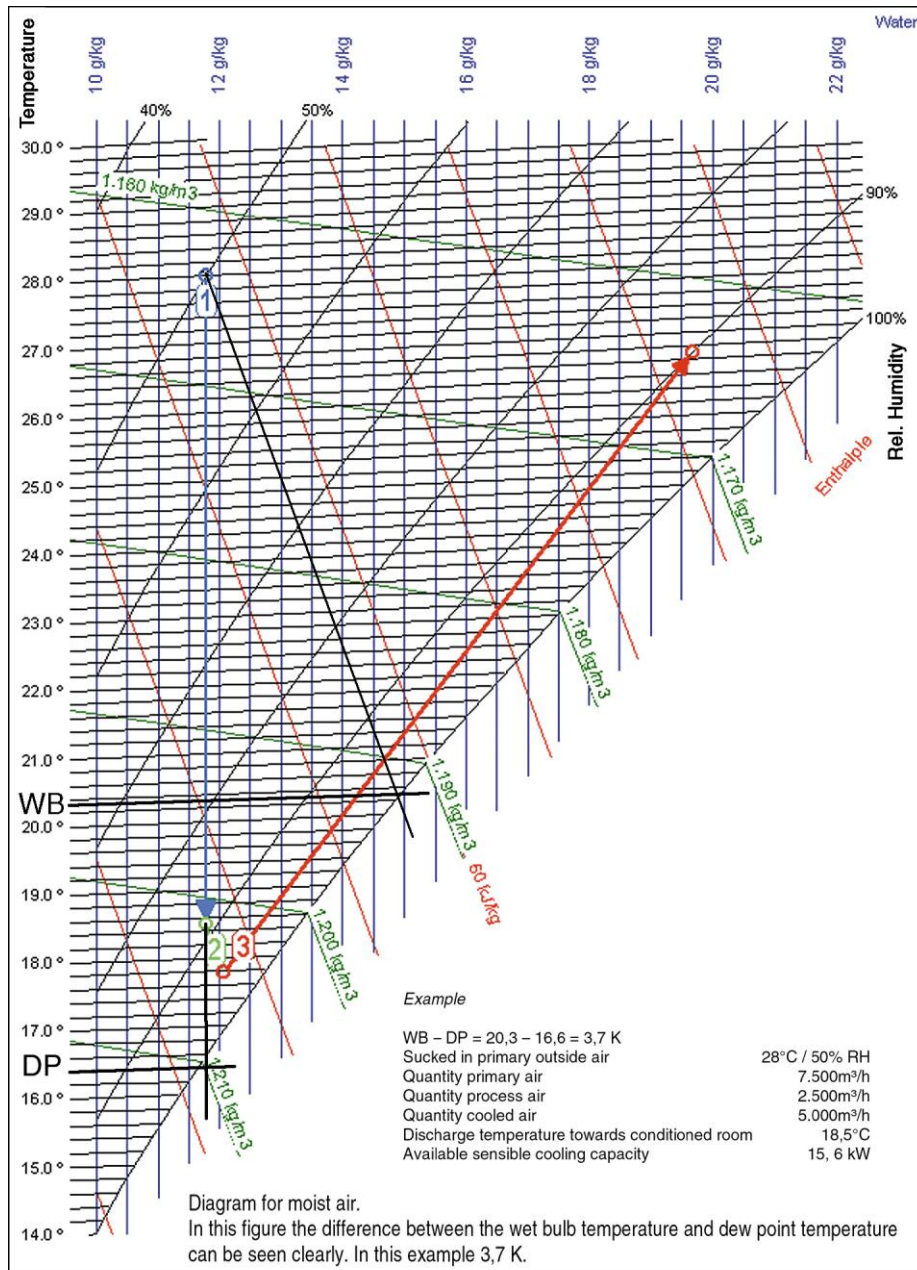

Figure 2. Mollier diagram for moist air
Direct Adiabatic Cooling is an adiabatic process resulting in a Wet Bulb temperature to be found on the saturation line in the Mollier diagram for moist air (fig. 2.) according to $h = \text{constant}$. If water and air are in direct contact, the minimum attainable temperature is the Wet Bulb temperature.
Example (fig 2.): 28°C and 50% RH Wet Bulb is 20,3 °C.
Direct Adiabatic Cooling systems are also for sale under the names Desert Cooling and Wet Bulb Cooling. They consist of a wetted absorbent material, an air filter and fan. The air to be cooled is blown through the absorbent, evaporating a part of the water. The energy needed for evaporating is directly withdrawn from the air by cooling it. As can be seen in the Mollier diagram for moist air (fig. 2.), the discharge temperature depends on the temperature and relative humidity of the entering air.
As mentioned before, the absolute humidity of the air-to-be-cooled remains unchanged during the cooling process. If the air is cooled until the point where condensation will occur, the Dew Point temperature is reached. (Mollier diagram for moist air: fig. 2.).
- In the explanatory Mollier diagram (fig. 2. point 1.), primary air of 28°C/50% R.H. (11,8 gr humidity /kg air) is admitted and cooled down to 18,5°C.
- At the end of the heat exchanger, approximately one third of this cooled air (fig. 2. point 2: 18,5°C/87%) is re-routed and becomes process air.
- At this point (fig. 2. point 2.) the process air enters the wetted process area. This almost adiabatic ($h = \text{constant}: 47 \text{ kJ/kg}$) picks up moisture until it reaches 95% (fig. 2. point 3: 17,8°C/95%).
- From there (fig. 2. point 3.) the process air stops reacting adiabatic and starts reacting diabatic by picking up moisture and heat along the wetted outer surface of the heat exchanger plates, until it leaves toward the ambient. (at 26.5°C/92%).
* Minimum discharge primary air temperatures, leaving the heat exchanger at point 2 fig. 2 and partly based on test results. Temperatures measured at fig. 2. point 2.